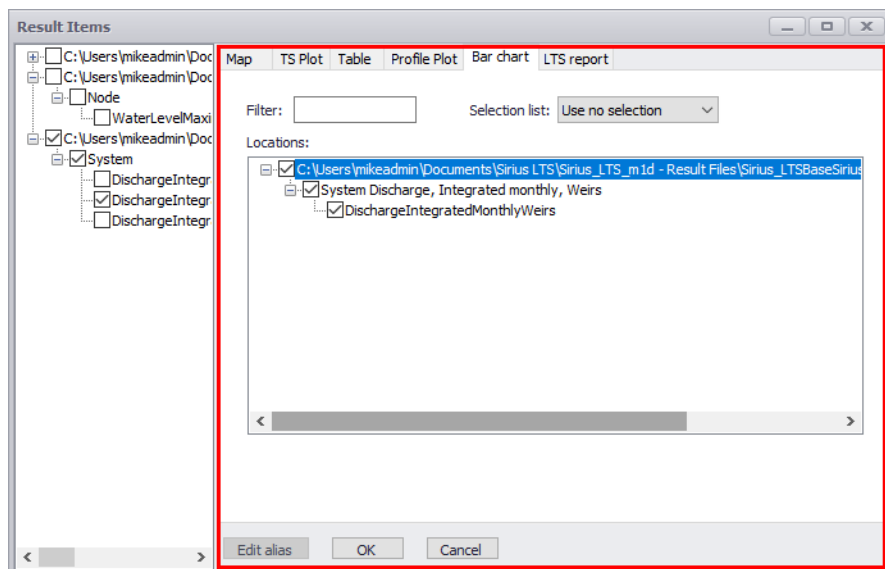

Figure 20.61 The Bar Chart tab on the Result Items dialog
- Access the ‘Bar Chart’ tab on the ‘Result Items’ dialog (Figure 20.61).
- Select the items and locations which shall be plotted on a bar chart (Figure 20.61). Note that it is not possible to customize data series labels (i.e. Edit alias) for bar charts, nor is it possible to edit existing bar charts.